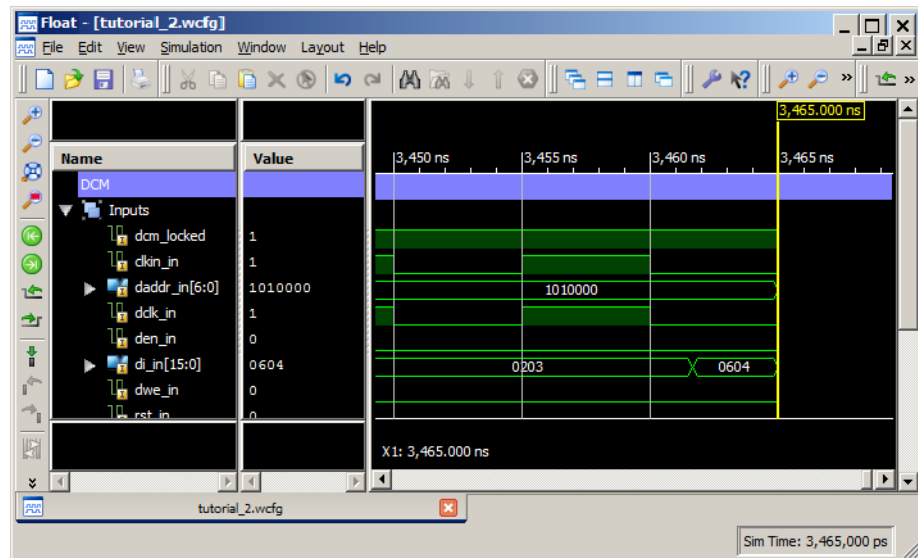

Figure 3-38: Wave Window: Analyzing Output of DCM DI_IN Input Bus
3. Right-click anywhere on the executable line and select **Toggle Breakpoint** to add the breakpoint (see Figure 3-38).
4. Continue stepping through the simulation until the `di_in` bus signal is updated with a new value (you might need to zoom in to observe the change). At around 3,465 ns, the bus should be updated from 0203h to 0604h (see Figure 3-38).